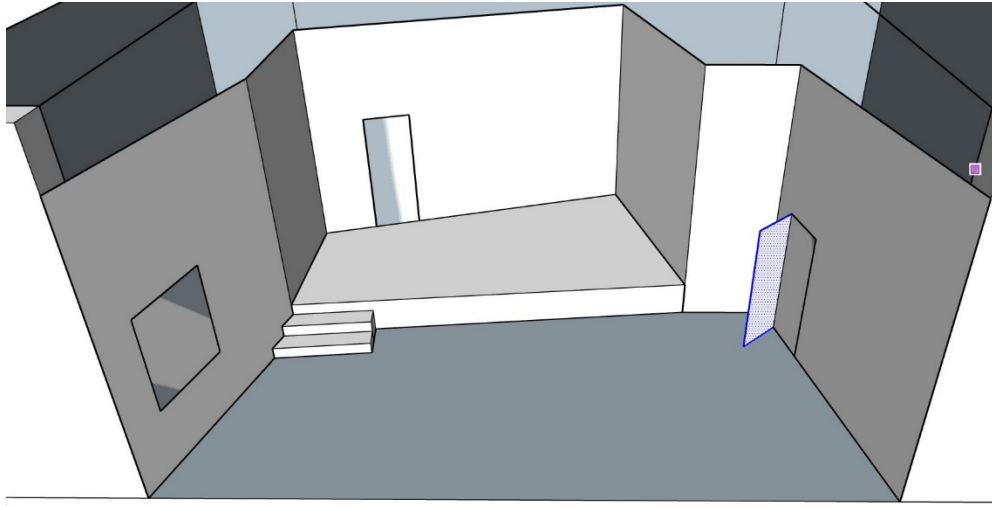

Fig 1
- b) An interior box set with parallel walls; perpendicular to the front of the stage is a **sound trap** with a lot of the dialogue getting lost as it bounces back and forth between side walls. When the sound does make it to the audience, the repeated echoes make it mushy and hard to discern. A set with walls angled out to the audience, (*Fig. 1*) will broadcast the sound to the audience.